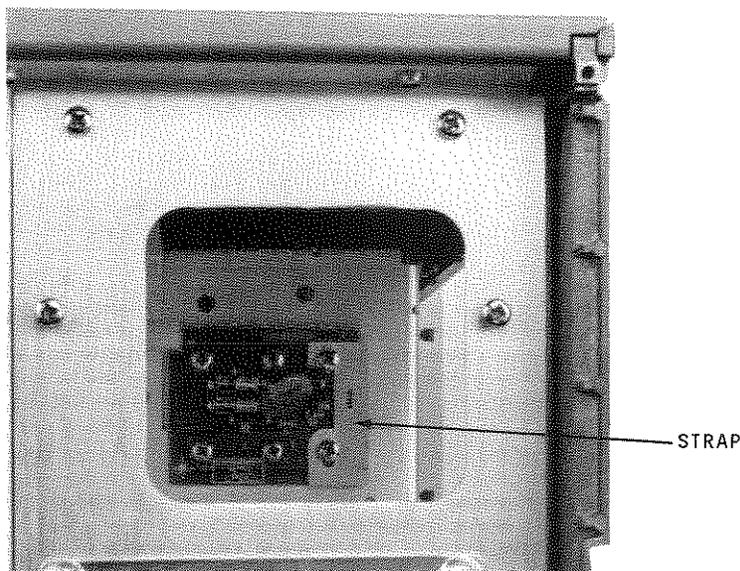

Figure 19. Floating User Side Ground (GUARD).
- b. Locate and remove the cover above the fan screen to expose the system side access compartment. See Figure 19. This compartment contains a small PC board and attached strap that isolates **GUARD** from chassis ground when removed.